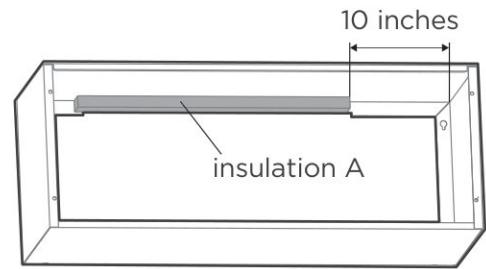

Fig. 1
- If using the old wall sleeve, the insulation on the wall sleeve needs to be replaced. First, remove the old insulation from the sleeve, then attach insulation A from the accessories. (See Fig. 1.)
- If using the new wall sleeve, simply attach insulation A. (See Fig. 1.)